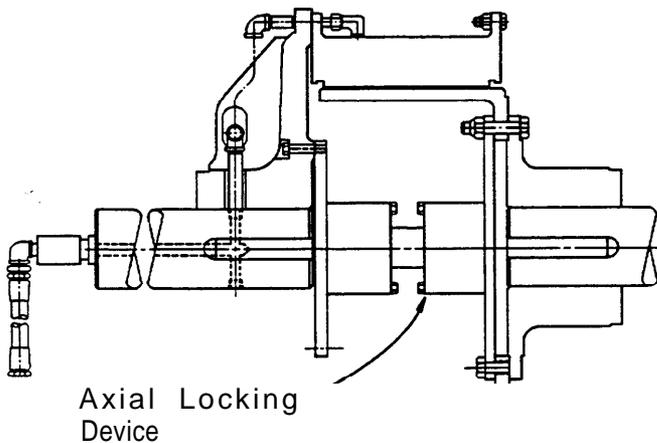

Fig. 3
- 1.2.2 For applications where the clutch is mounted on a motor shaft having plain bearings, an axial locking device is used to hold the motor on magnetic center during operation. See Figure 3. Refer to the INSTALLATION section for axial locking device adjustment.